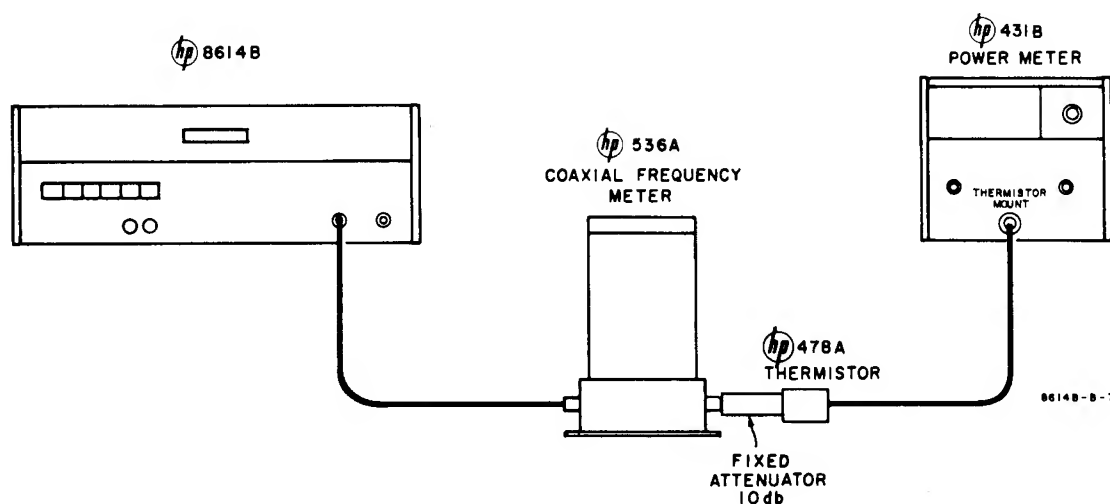

Figure 5-13. Frequency and Power Measurement
a. Connect equipment as shown in Figure 5-13.